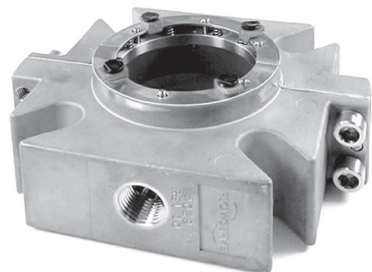

Figure 31
- 11.3 Repeat this procedure for all four centering devices. See Figure 31.